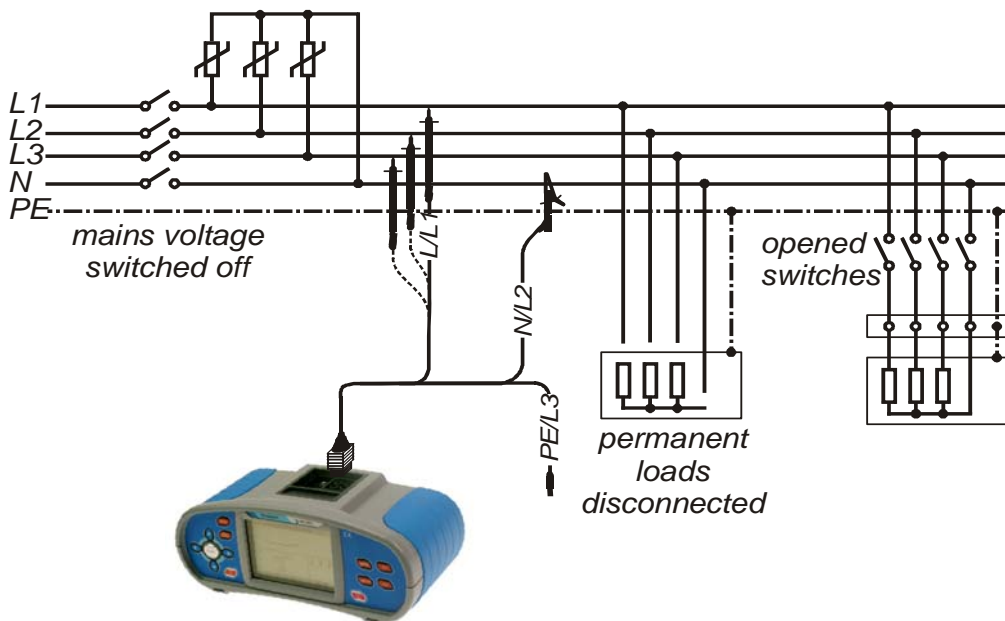

Figure 5.47: Connection of universal test cable for varistor test
- ❑ **Connect** test cable to the instrument and tested item (see figure 5.47).